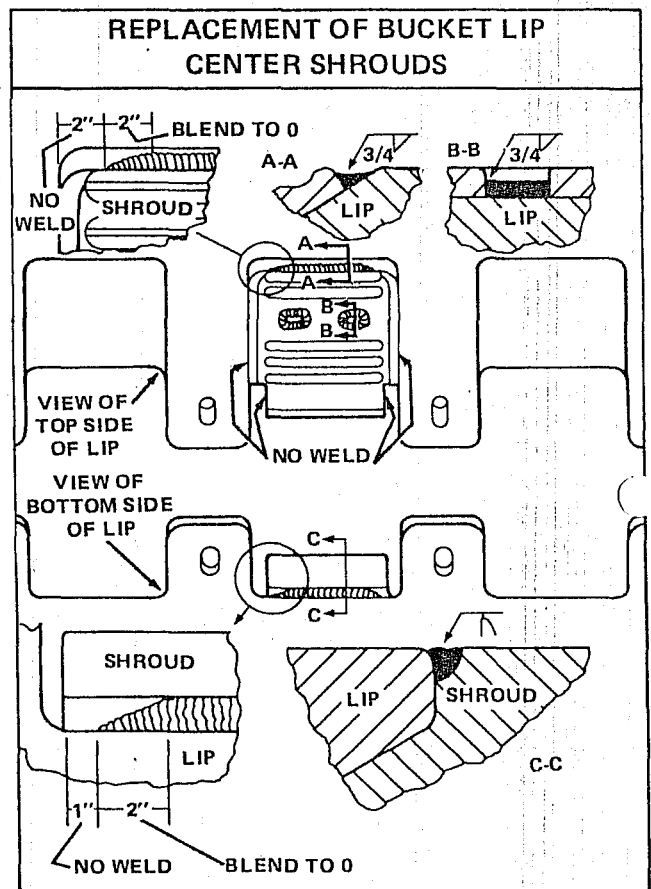

FIGURE A2-6
**PROCEDURE FOR REPLACEMENT OF BUCKET LIP SHROUDS (Refer to Figures A2-6 and A2-7).**